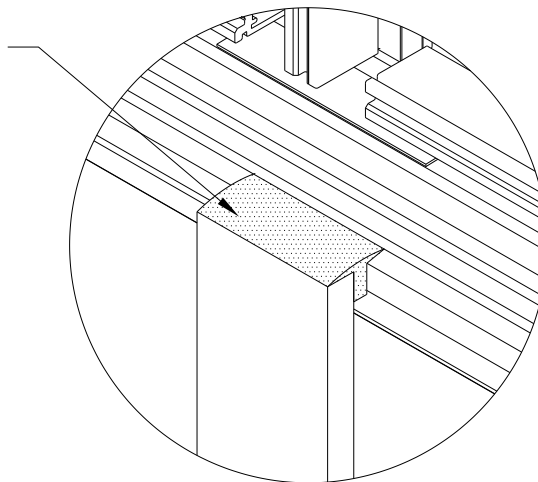

Figure 29: Face Cap / Pressure Plate Seal
12.16 Once pressure plates and face caps are installed. Top side of face cap will have backer rod inserted into opening and sealant applied to seal pressure plate and cap. See *Figure 29*.